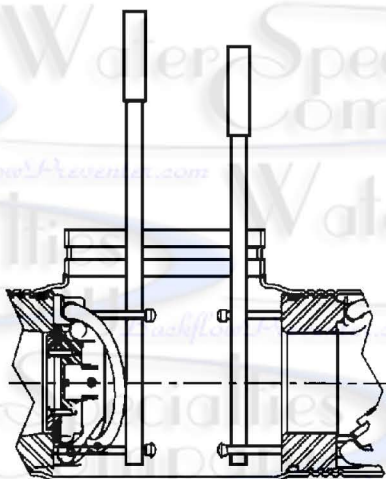

Figure 1
2. Remove No. 1 check assembly by unscrewing (turn counterclockwise) check and remove through top access port. Do not use arm as a handle to unscrew check. Insert lid bolts in 1st check seat ring (see Fig. 1), insert a long screwdriver or pry bar between lid bolts. Gently apply pressure against the bolts and turn seat assembly counter clockwise moving bolts hole to hole to maintain turning leverage (two additional bolts will eliminate need to move lid bolts from hole to hole). Finish unscrewing by hand and remove from valve body. Unscrew No. 2 check (turn counterclockwise) by placing a long screwdriver across lid bolts inserted in holes located in the 2nd check seat ring, similar in method used to remove 1st check and applying pressure to loosen No. 2 check. Finish unscrewing by hand.